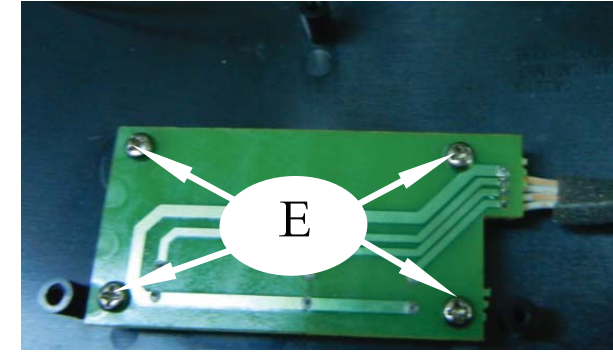

Figure 7
- 1) Loosen 4 screw "E" as shown in figure7 to detach KEY Board